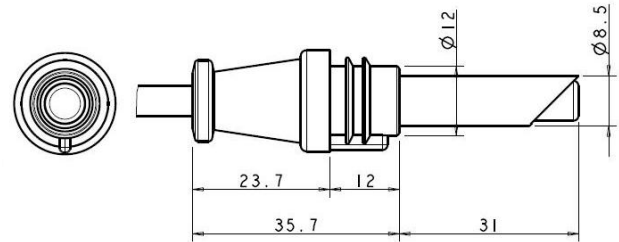

Figure 2
**13:** Phototransistor type FT13 (fig 2)